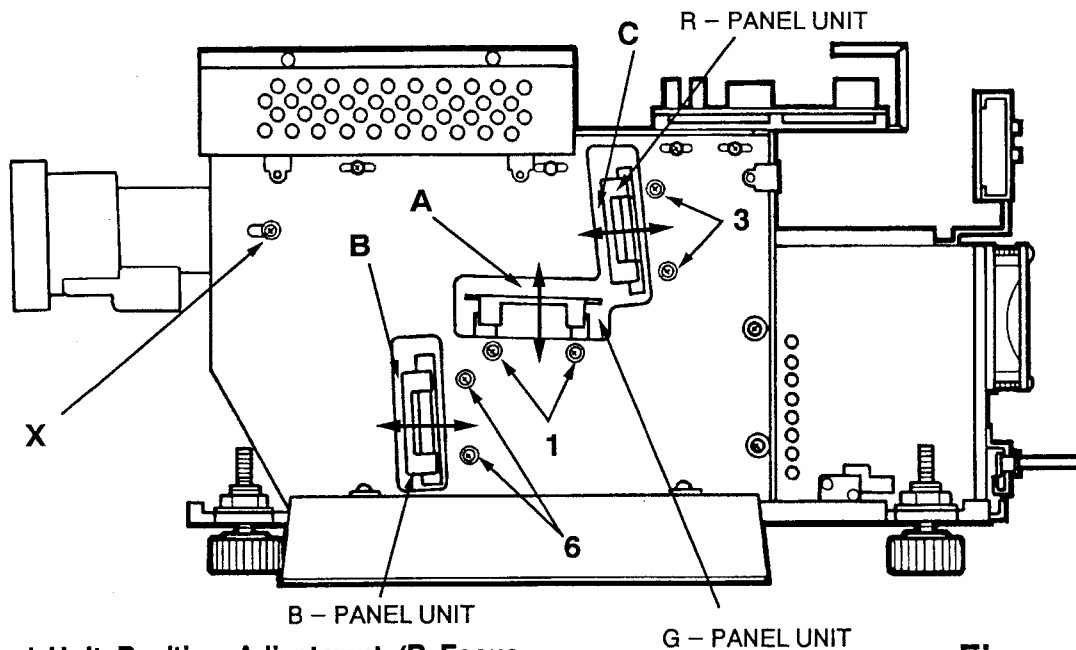
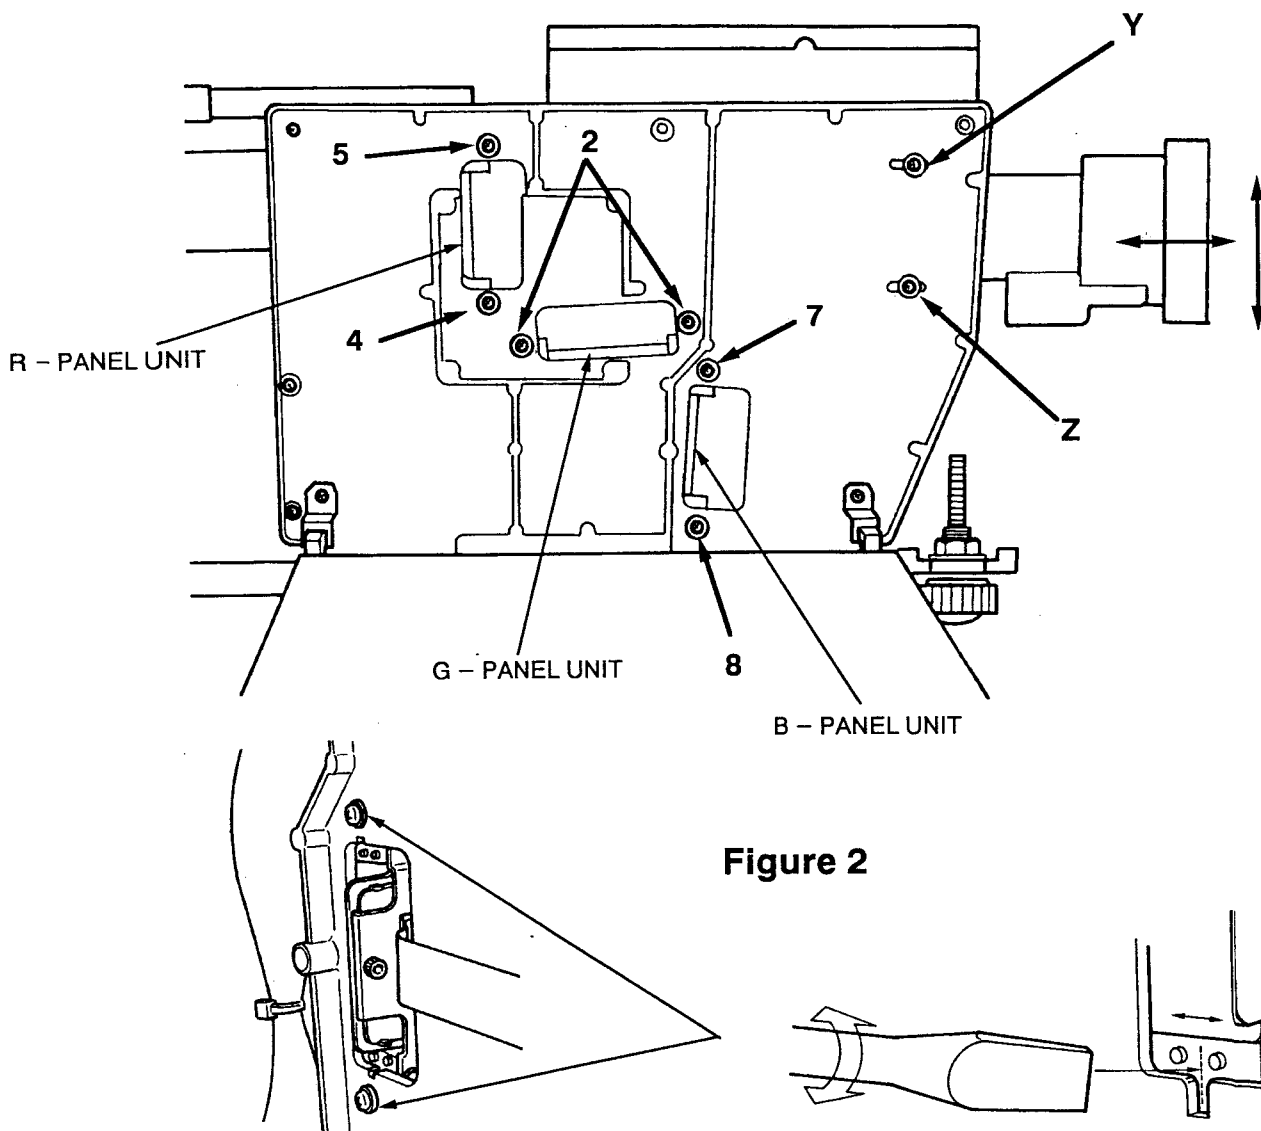

Figure 1
Figure 2
For adjustment, the setting configuration for the unit is as shown in Fig.1 and Fig.2.
2. Insert paper, etc. in locations B and C as indicated in Fig.1 to block the B light and R light, and project only the G light. Using the remote control focus, adjust the focus so the left side of the pattern on the screen is sharp focus.*
3. Loosen screws "1" (Fig.1) and screws "2" (Fig.2). Move the G panel unit (on the side shown in Fig.1) up or down until the right side of the screen is in sharp focus. Tighten screws "1" (Fig.1) and screws "2" (Fig.2).
1. Temporarily tighten the R panel unit holding screws "3", "4" and "5" (shown in Fig.1 and Fig.2) in their midway positions in the screw slots.
2. Insert paper, etc. in locations A and B as indicated in Fig.1 to block the G light and B light, and project only the R light. Using the remote control focus, adjust the focus until the middle left side of the pattern on the screen is in the best focus.
3. Loosen screws "3" (Fig.1) and screw "4" (Fig.2). Move the lower part of the R panel unit forward or backward until the upper left hand side of the screen is in sharp focus. For adjustment, insert a slot head screwdriver in the adjustment slot provided in the screw "4" mount, and perform the same method as the R panel unit. Temporarily tighten screw "4".
4. Loosen screw "5" (Fig.2) and move the upper part of the R panel unit forward or backward until the lower left of the screen is in sharp focus. Temporarily tighten screw "5".
6. Move the R panel unit forward or backward on the side shown in Fig.1 until the right hand side of the screen is in sharp focus. Tighten screws "3". (Fig. 1)
1. Temporarily tighten the B panel unit holding screws "6", "7" and "8" (shown in Fig.1 and Fig.2) in their midway positions in the screw slots.
3. Loosen screws "6" (Fig.1) and screw "8" (Fig.2). Move the lower part of the B panel unit forward or backward until the upper left hand side of the screen is in sharp focus. For adjustment, insert a slot head screwdriver in the adjustment slot provided in the screw "8" mount, and perform the same method as the B panel unit. Temporarily tighten screw "8".
4. Loosen screw "7" (Fig.2) and move the upper part of the B panel unit forward or backward until the lower left of the screen is in sharp focus. Temporarily tighten screw "7".